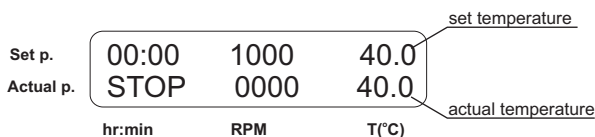

Fig.4 Control panel in operation mode
- 5.8. Let us assume that the readings of independent sensor is 39°C, but the display's actual temperature is 40 °C (Fig.4). Then it is necessary to add 1°C correction.